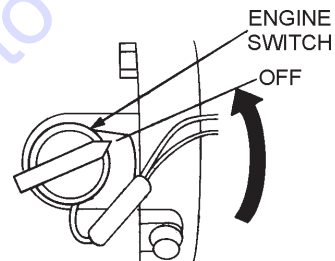

Figure 17. Engine ON/OFF Switch (OFF)
2. After the engine **cools**, turn the engine ON/OFF switch to the “**OFF**” position (Figure 17).